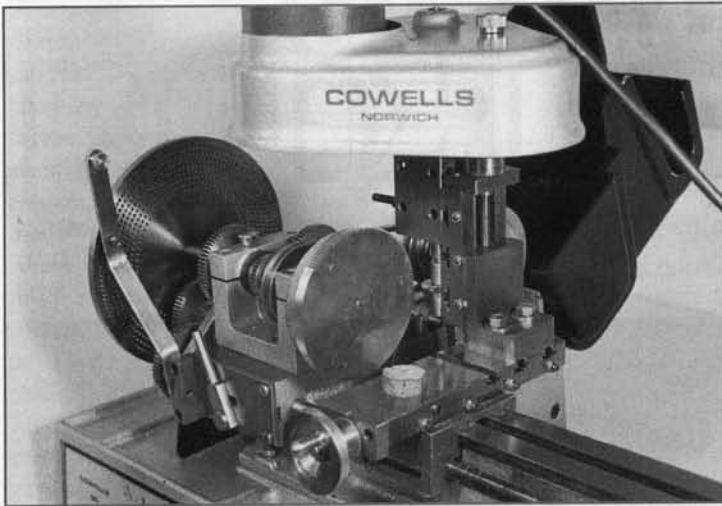
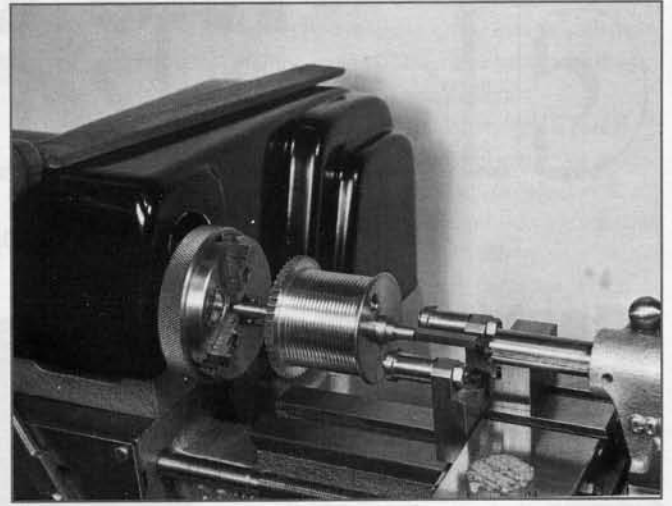

Fig. 2 Wheelcutting operation being performed on the Cowell lathe using a cutter held in a horizontal position on the vertical slide.
Fig. 3 Wheelcutting operation being performed on the Cowell lathe using a cutter mounted vertically on a vertical slide.
Clocks are really gear boxes and the cutting of clock wheels often puts some constructors off. However the process is quite simple and modern lathes usually offer a milling attachment as an accessory. A general set-up for wheelcutting is given in Fig. 2 where the main wheel of an English Regulator is shown being cut on a Cowell lathe. The vertical slide and milling attachment are both standard accessories. The dividing plate at the rear of the lathe is supplied by Chronos (1). Again, in the same lathe, we see a dead beat escape wheel being cut, Fig. 3. The cutters being used in both these examples are commercial ones and can be obtained from the manufacturer, Philip Thornton (2).